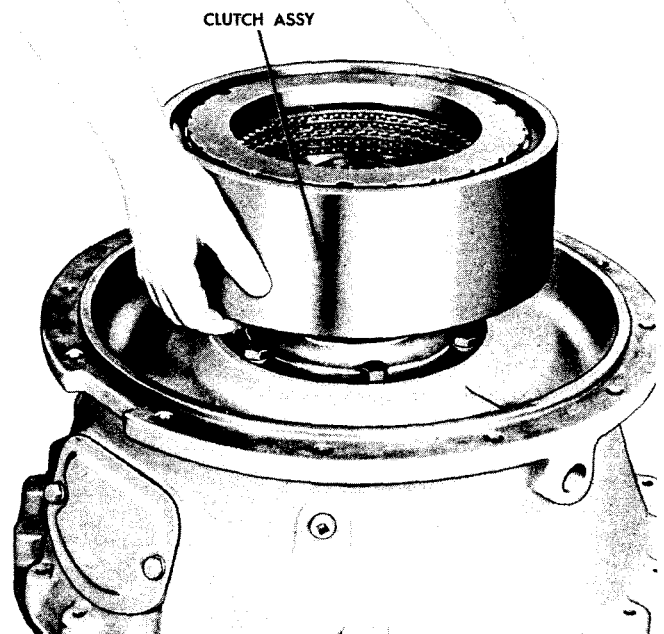

Fig IX-8. Removing (or installing) clutch assembly
(6) Remove the clutch assembly (fig. IX-8).
(2) Install bearing retainer (5) and gasket and secure the retainer with six bolts and lock washers.
(3) Install the clutch assembly on the converter output shaft (fig. IX-8).